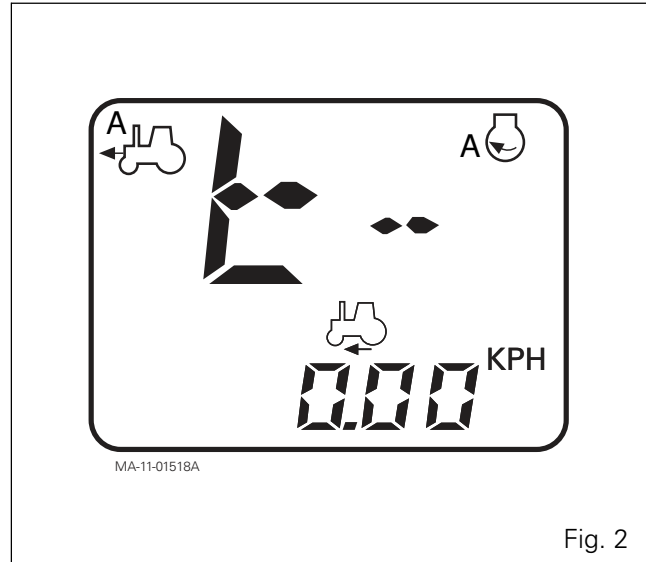

Fig. 2
6. The indicator lights for ranges 1 and 4 flash alternately and "T" is displayed on the right-hand screen of the DCC2 to indicate that the system is ready to start calibration (Fig. 2).